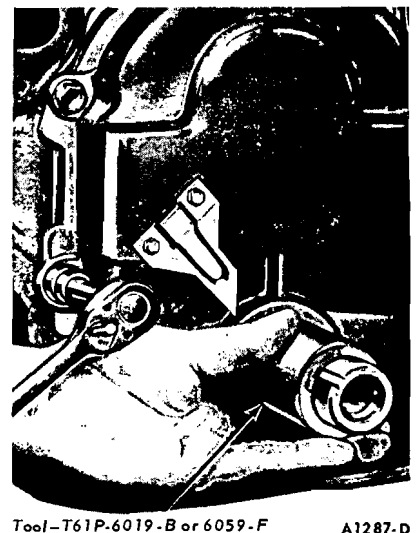

FIG. 47—Cylinder Front Cover Alignment
5. Lubricate and install the alignment pilot tool on the cylinder front cover so that the keyway in the pilot aligns with the key in the crankshaft. Position the cover and pilot over the end of the crankshaft and against the block (Fig. 47). Install the retaining screws.